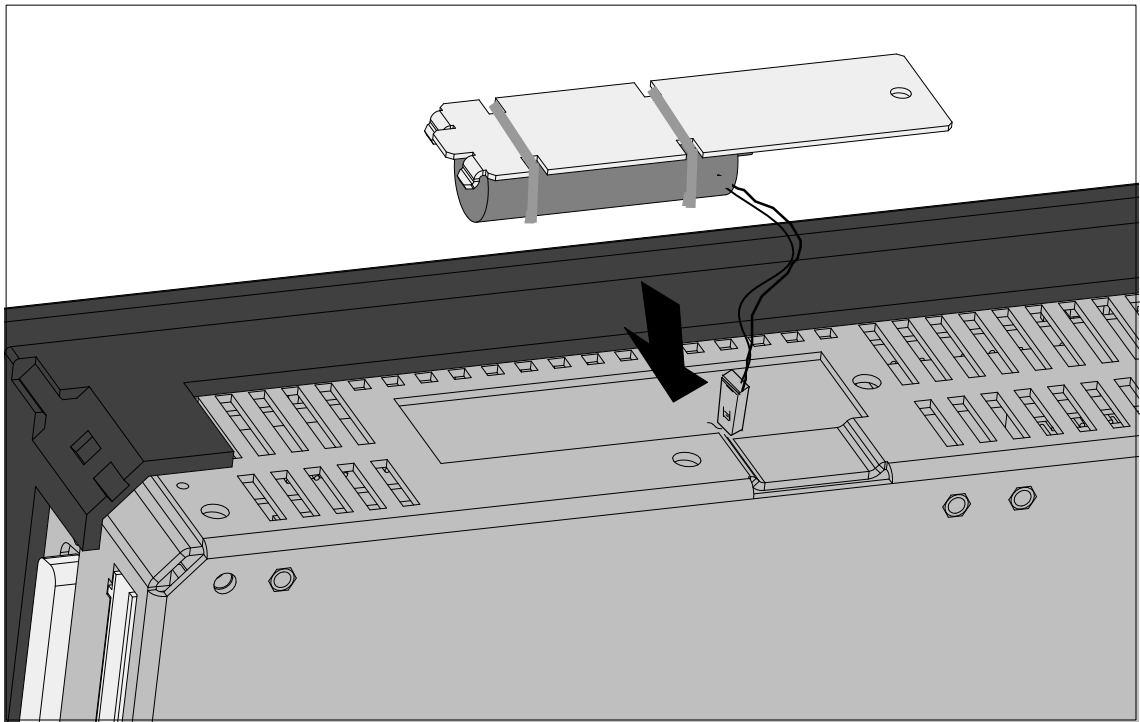

Figure 8-3 Inserting the Backup Battery
4.	Loosen the cable binders with which the backup battery is attached to the cover (see Figure 8-3).
6.	Plug the battery connector of the new backup battery into the relevant socket in the battery compartment of the C7. The notch on the battery connector must point to the left (see Figure 8-3).